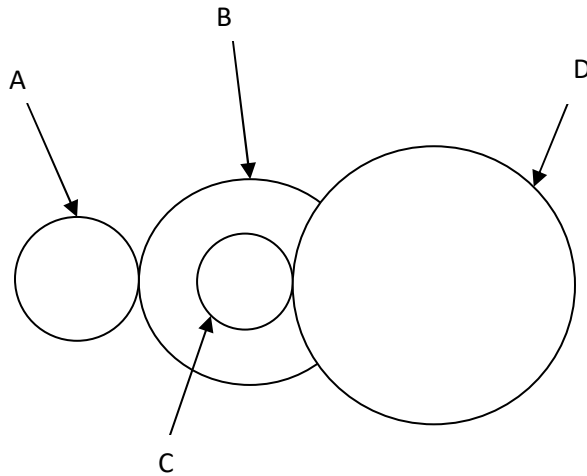

Fig. 1d
- ii) A double reduction gearing system is shown in Fig 1d. Gear A is the driver and rotates in the clockwise direction at 1500 rpm. Gears A, B, C and D have 40, 50, 30 and 60 teeth respectively.